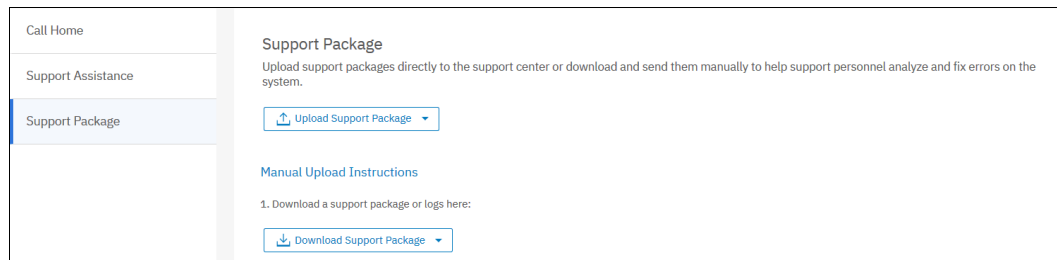

Figure 7-10 The Support Package page
1. Click **Settings** → **Support** → **Support Package** to open the Support Package page, as shown in Figure 7-10.